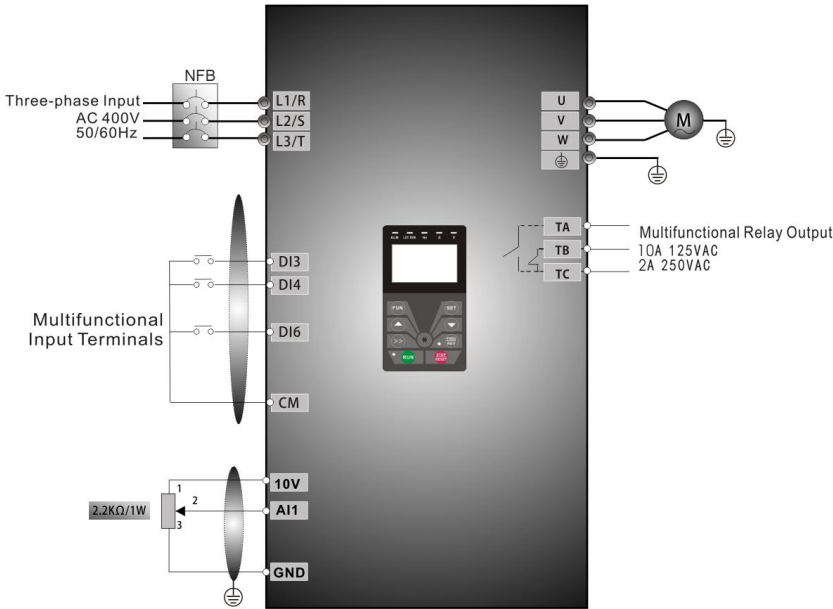

Fig 4-3 Wiring Diagram 3
- (1) Connect the wires in accordance with Figure 4-3. After having checked the wiring successfully, switch on the air switch, and power on the inverter. Note: 2K~5K potentiometer may be adopted for setting external analog signals. For the cases with higher requirements for precision, please adopt precise multiturn potentiometer, and adopt shielded wire for the wire connection, with near end of the shielding layer grounded reliably.